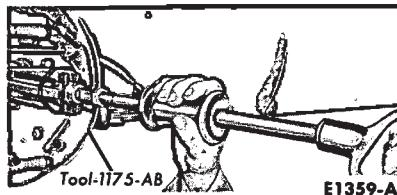

FIG. 9—Removing Rear Wheel Bearing Oil Seal
4. Whenever a rear axle shaft is replaced, the oil seal must be replaced. Remove the seal with Tool 1175-AB and a slide hammer (Fig. 9).